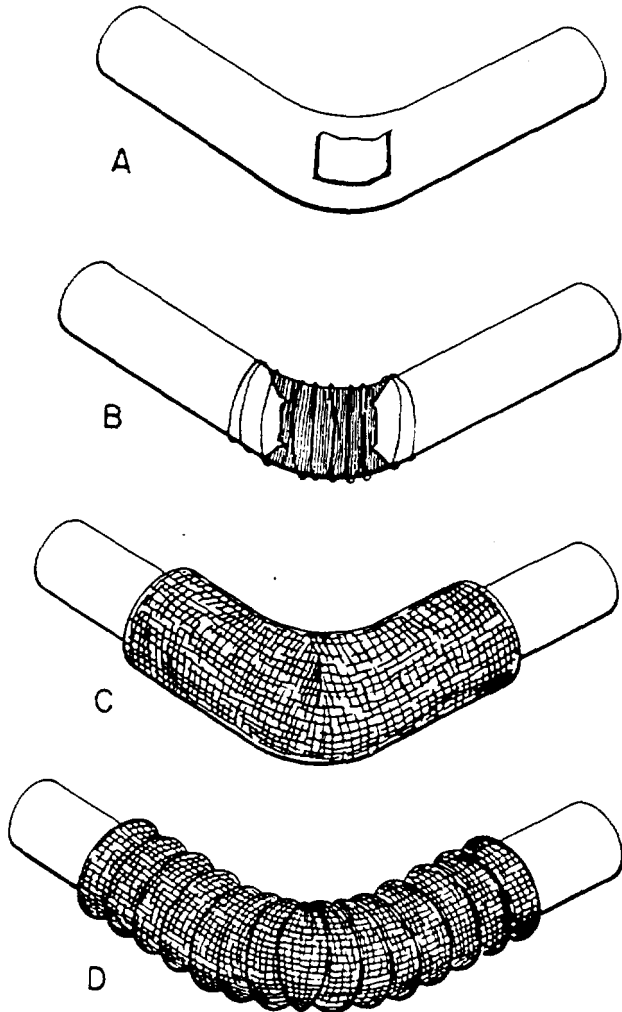

Figure 2-27.—Elbow pipe patch.
Elbow Patch.— The elbow patch shown in figure 2-27 is applied, using the same basic procedures as the simple patch. However, note the following exceptions:
1. The edges of the void cover are slit 2 to 3 inches at each end to conform to the contour of the pipe. See view B of figure 2-27.